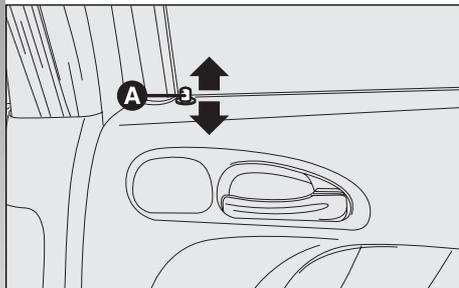
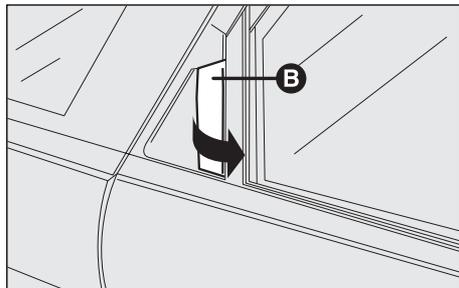

fig. 1
fig. 2
– To open the door, only with the inside knob lifted (**A-fig. 1**), pull the opening handle (**B-fig. 2**).
– To close, press the knob (**A-fig. 1**) also with the door open, then shut the door.